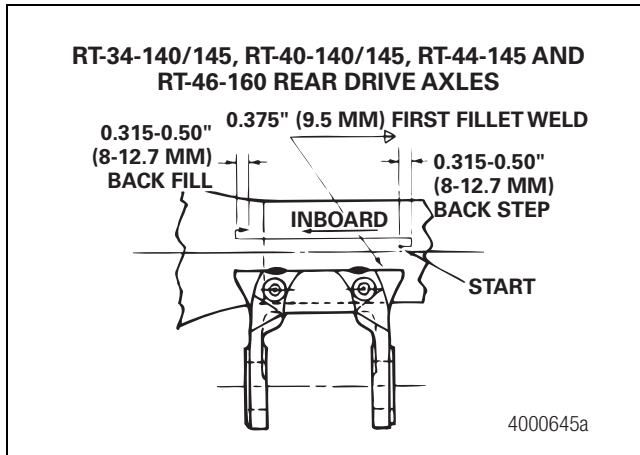

Figure 3.26
- A. Back step the start of the weld from 0.315-0.50-inch (8-12.7 mm) to prevent a lack of fusion. Figure 3.26.